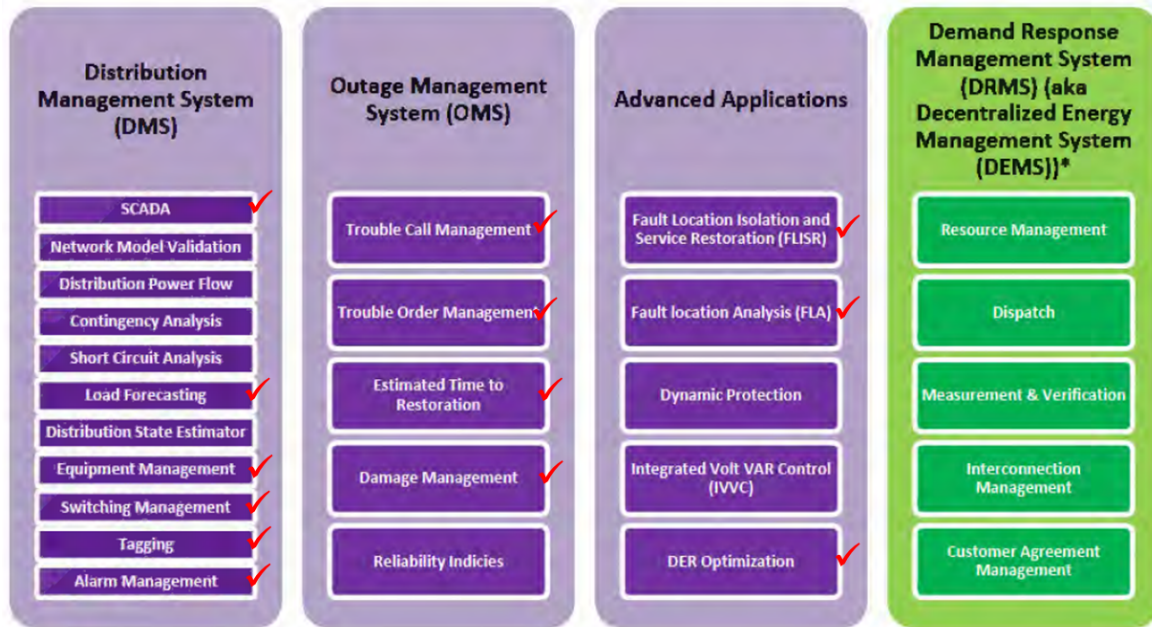

Figure 1 - Desired features of the ADMS upgrade (depicted with red checks)^a
- The team's diagrams, (Figure 1 - Desired features of the ADMS upgrade (depicted with red checks) above, may provide some insights about the most desired features and those which are not prioritized for use.